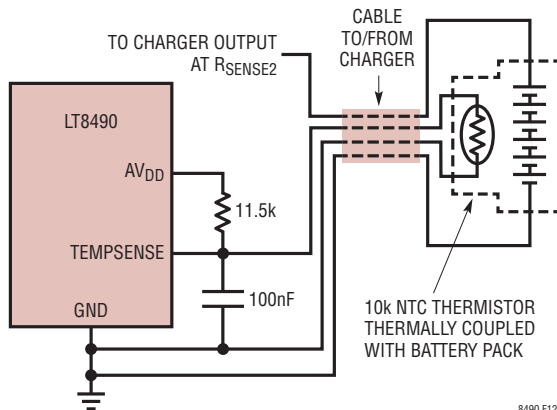

Figure 12. Battery Temperature Sensing Circuit
The LT8490 can measure the battery temperature using an NTC (negative temperature coefficient) thermistor thermally coupled to the battery pack. The temperature monitoring function is enabled by connecting a 10k $\Omega$ ,  $\beta = 3380$  NTC thermistor from the TEMPSENSE pin to ground and an 11.5k $\Omega$  resistor from  $AV_{DD}$  to TEMPSENSE (as shown in Figure 12). If battery temperature monitoring is not required, then use a 10k $\Omega$  resistor in place of the thermistor. This will indicate to the LT8490 that the battery is always at 25°C.
3. BATTERY DISCONNECT SENSING: The LT8490 detects if the battery and thermistor have been disconnected from the charger by monitoring the TEMPSENSE pin voltage. When the connection to the battery is severed, as shown by the arrow in Figure 12, the connection to the thermistor is also severed and the TEMPSENSE voltage rises up to AVDD through the 11.5kΩ resistor. During the time when the battery is not present, the LT8490 halts charging. The charger automatically restarts the charging at Stage 0 when a battery (along with integrated thermistor or resistor) is sensed through the TEMPSENSE pin.